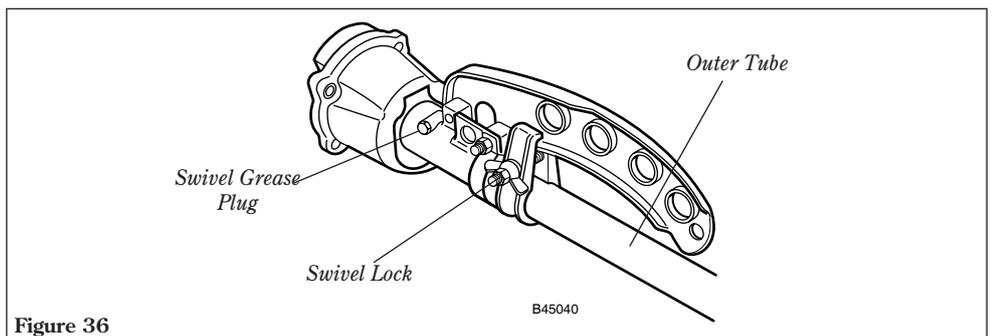

Figure 36
- Remove the swivel joint lubrication plug and grease the joint with Shindaiwa Gearcase Lubricant. P/N 13-57. See Figure 36.